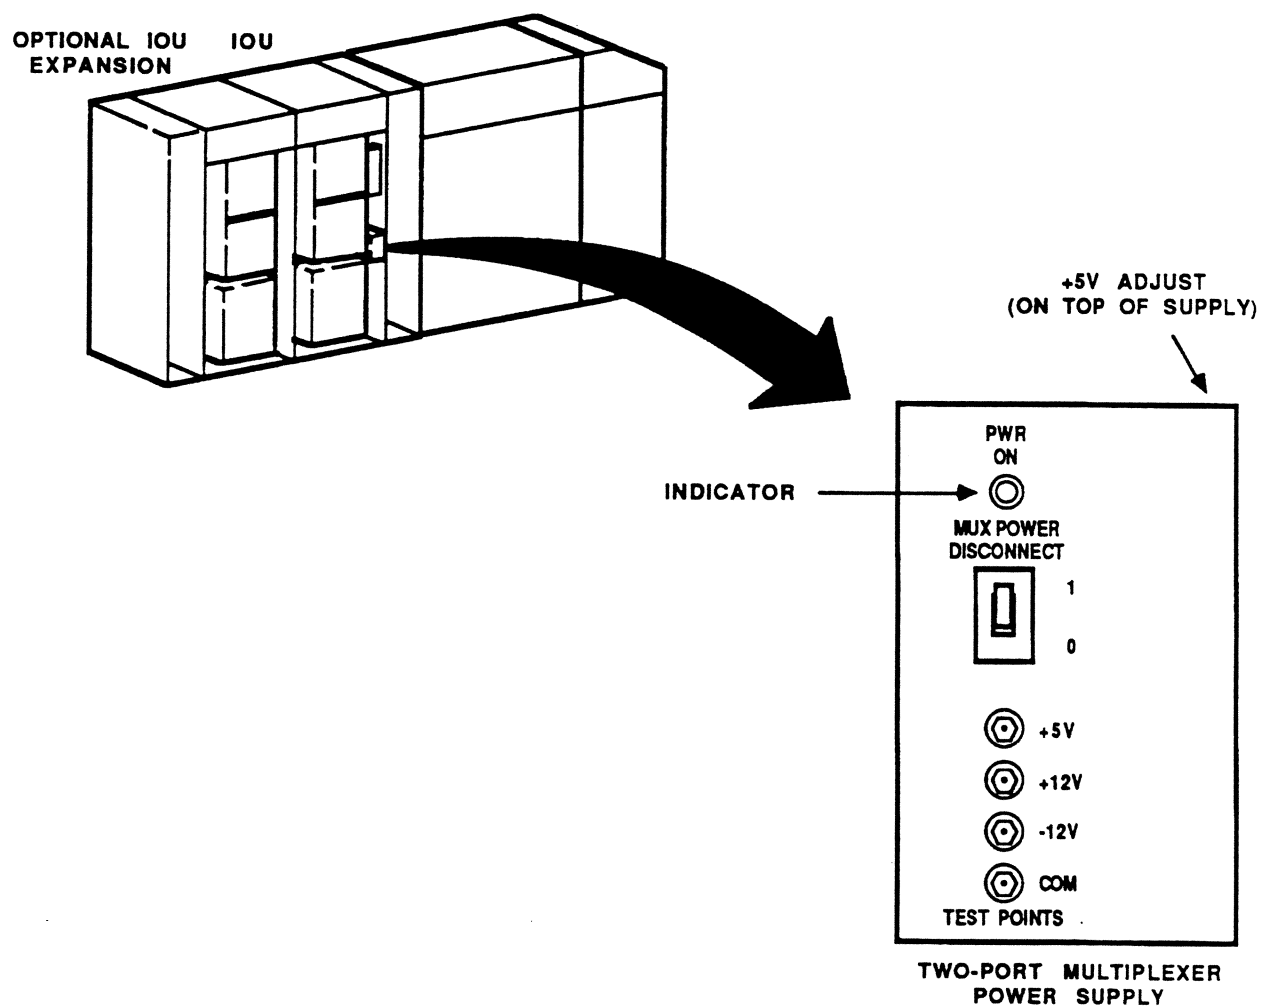

Figure 2-66. Two-Port Multiplexer Power Supply Adjustment
- ___ 2. Set MUX POWER DISCONNECT switch on IOU two-port multiplexer power supply to 1 (on), if not previously done. Power supply is accessible from front right side of IOU (figure 2-66).